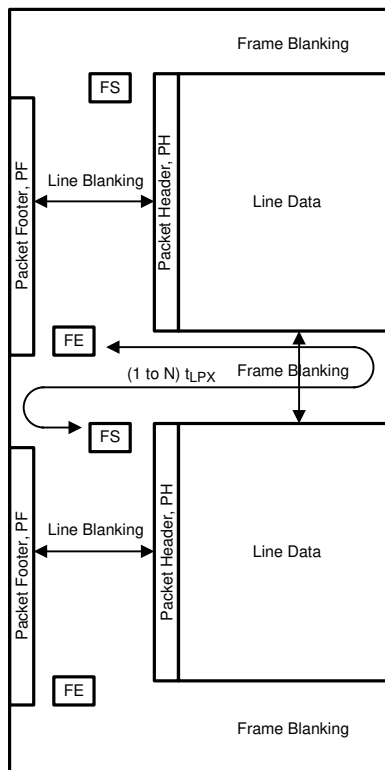

Figure 30. CSI-2 General Frame Format
The DS90UB940-Q1 (in default mode) takes RGB 24-bpp data bits defined in the serializer and directly maps the bits to the pixel color space in the data frame. The DS90UB940-Q1 follows the general frame format as described per the CSI-2 standard (Figure 30). Upon the end of the vertical sync pulse (VS), the DS90UB940-Q1 generates the frame end and frame start synchronization packets within the vertical blanking period. The timing of the Frame Start will not reflect the timing of the VS signal.